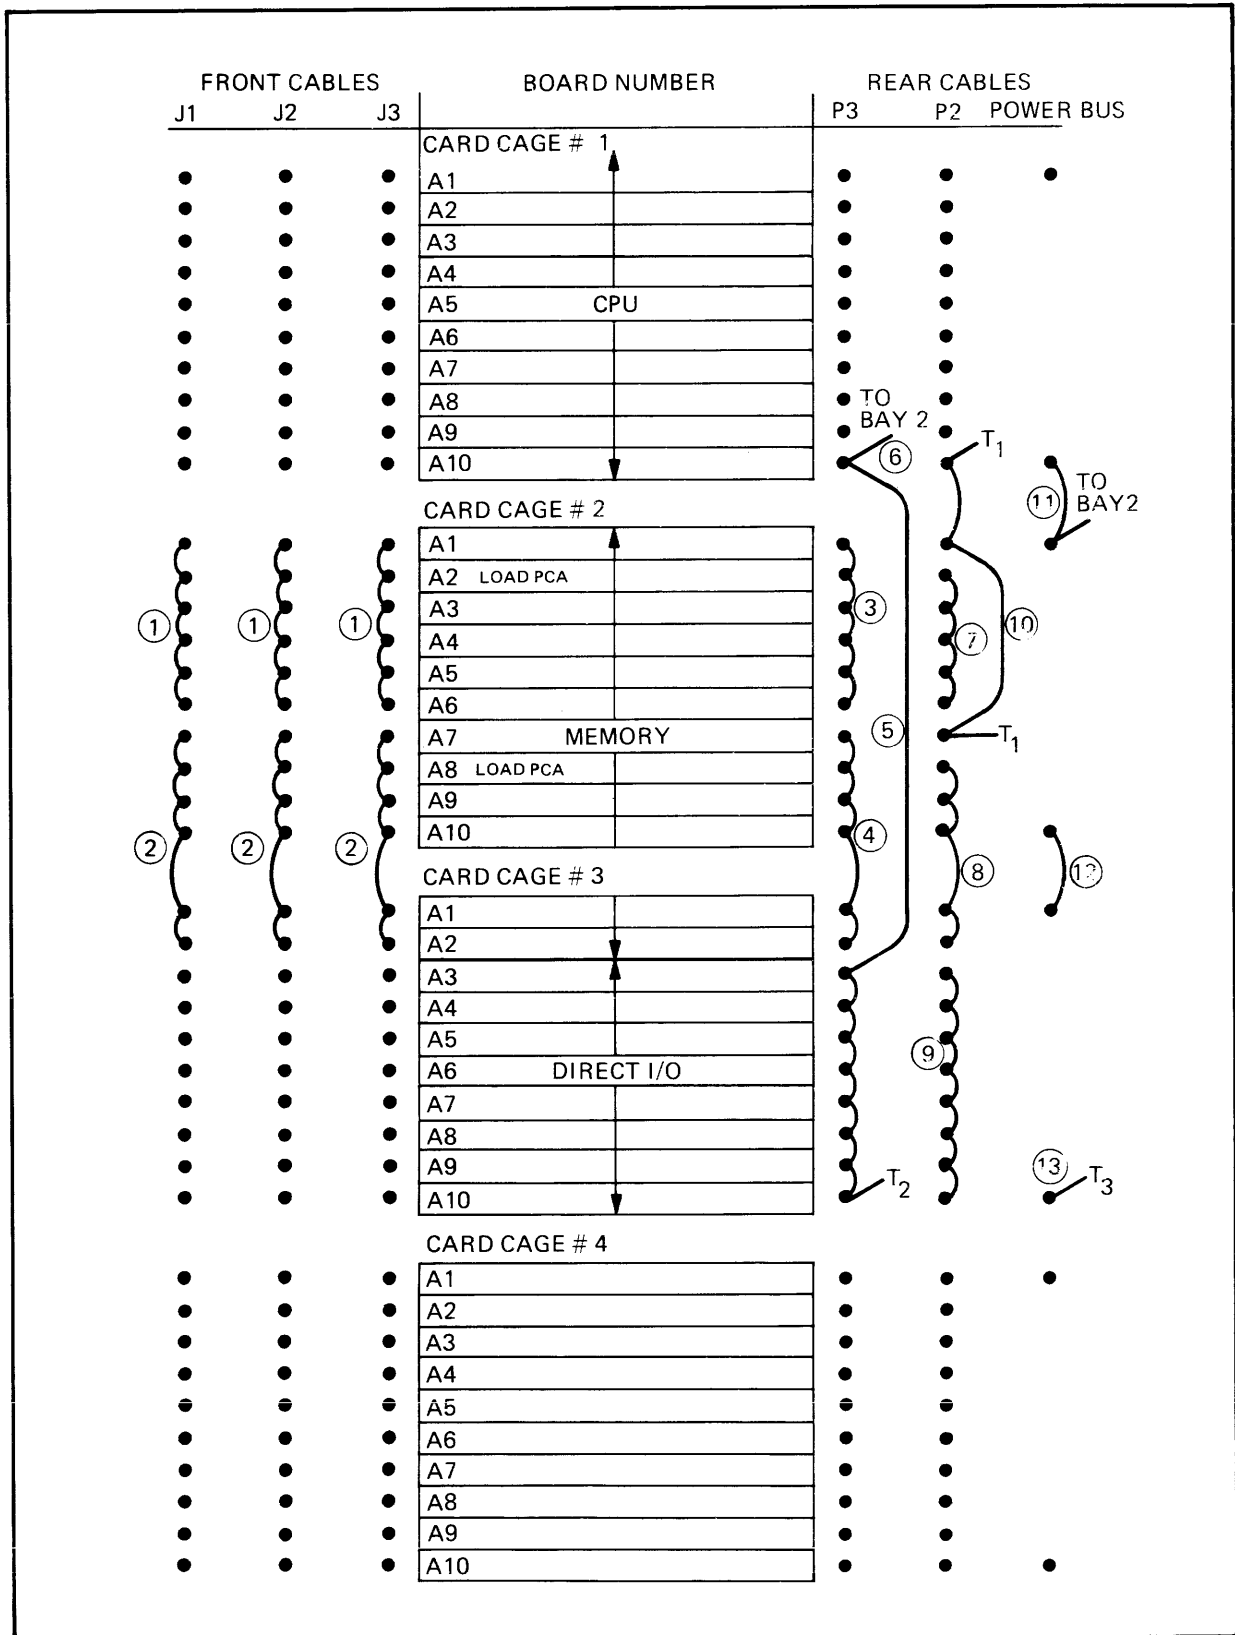

Figure 2-13. Flat Cable Connections for One or Two tMCU Memory Configurations (refer to the legend on the opposite page)
9. If the number of †MCUs in the computer system is *not* being increased beyond two, reconnect the original flat cables to the PCAs (the proper connections are illustrated in figure 2-13).
Legend for Figure 2-13